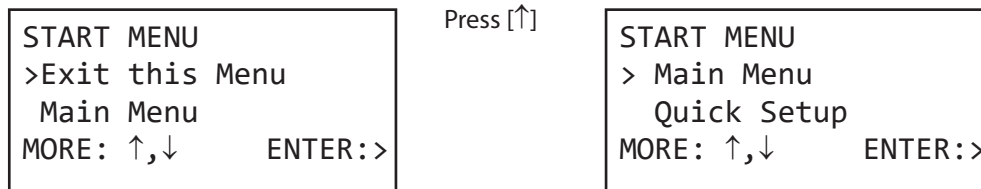

Figure 27: Scroll up
**Example 1:** Figure 27 shows the *Start Menu*. The selection arrow points to the *Exit this Menu* selection.